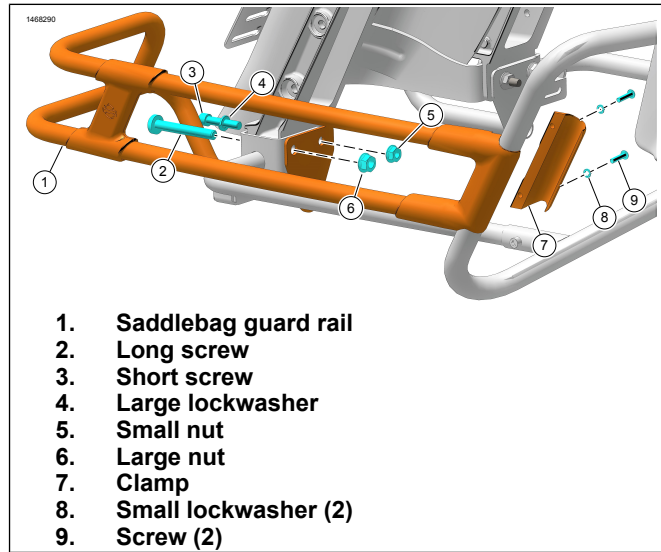

Figure 4. Saddlebag Guard Rail
1. See Figure 4. Install saddlebag guard rail to one side at a time:
- b. Secure saddlebag guard rail (1) with short screw (3), large lockwasher (4) and nut (5). Leave fasteners loose.
- c. Install original equipment (OE) long screw (2) and nut (6). Leave fasteners loose.
2. See Figure 4. Install front guard rail to saddlebag support.
- a. Position front of saddlebag guard rail (1) onto support assembly.
- b. Secure with clamp (7), small lockwashers (8) and screws (9).
- c. For kits 90201902/90201903, tighten front clamp screws (9).